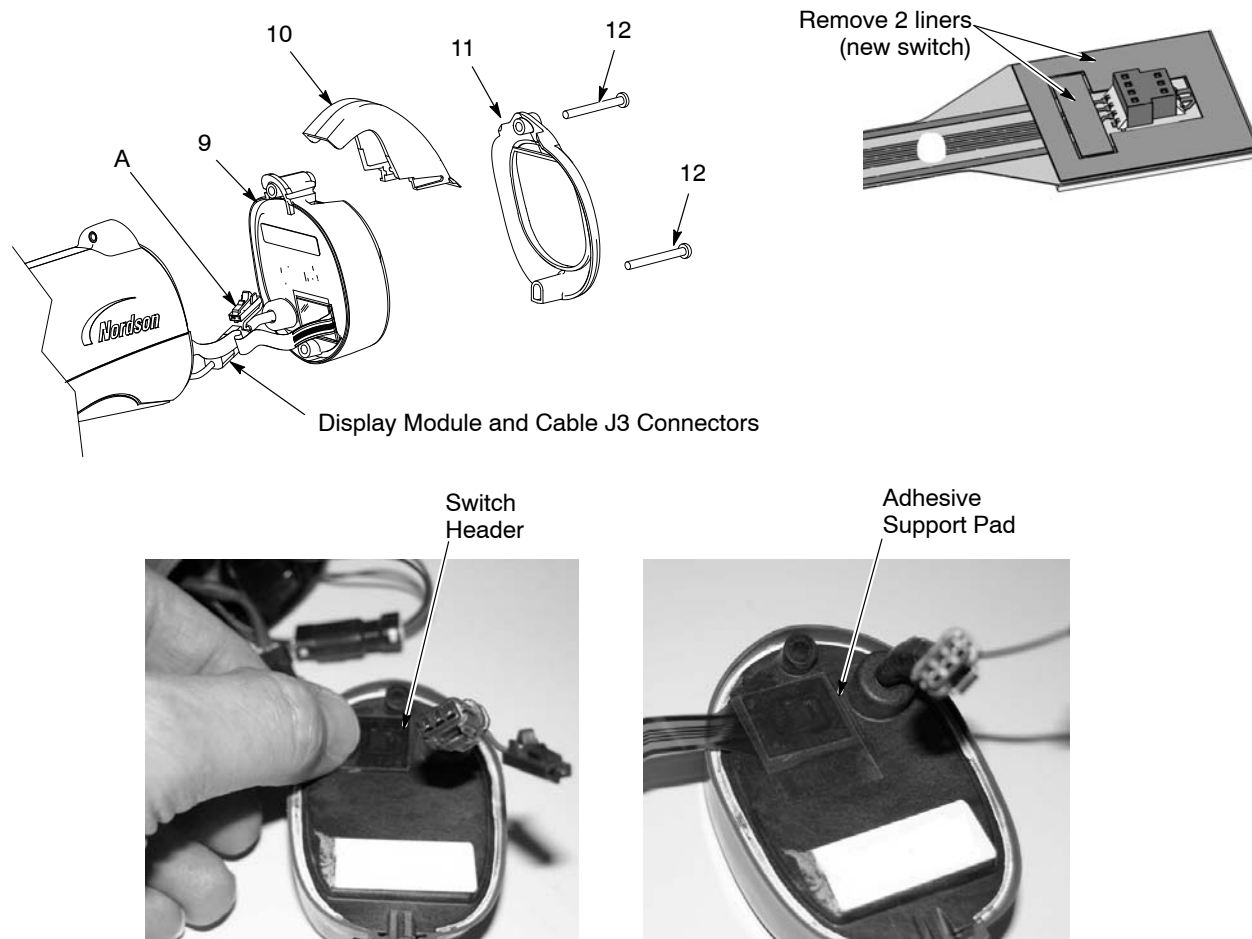

Figure 6-2 Display Module Replacement
1. On the display module (9), carefully clean the trigger switch header mounting surface and surrounding area with isopropyl alcohol. Allow the surface to dry completely before proceeding.
2. If you are installing a new trigger switch, remove the two liners from the connector side of the trigger switch header as shown in Figure 6-2.
5. Connect the J3 display module and cable connector together. The ground wire connector (A) is not used for this version of the gun.
7. Slide the hook (10) onto the display module, then install the bezel (11).
8. Install and tighten the screws (12).
4. See Figure 6-2. Install the display module as described in *Display Module Installation* on page 6-2.
5. Install the electrode assembly (3) into the the end of the outlet tube at the front of the gun body. Make sure the wire electrode is not bent or broken.
6. Install the nozzle (2) on the electrode assembly, making sure the keys in the electrode assembly slide into the slots on the nozzle.
7. Install the nozzle nut (1) over the nozzle and rotate clockwise to secure.